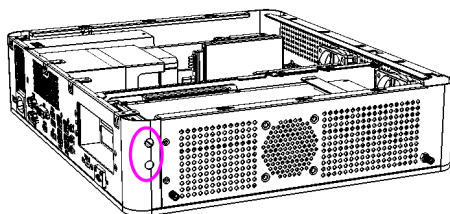

Figure 4-A
4. Remove two hole plugs as the figure 4-A indicated below. Then use a Philips screwdriver through the holes to remove the screw for each expansion slot filler.